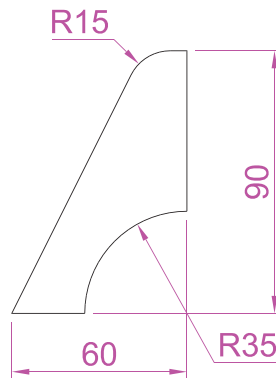

Fig. 17.12 Third example – UCS – outline for 3D model
3. Construct the outline in Fig. 17.12 and extrude to a height of 120.